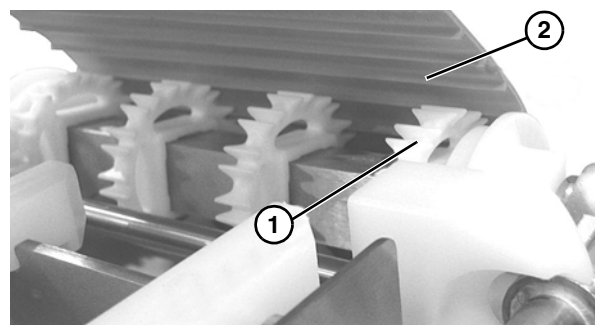
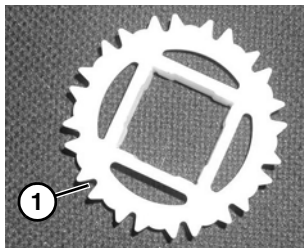

Figure 10
Figure 11
6. Align the sprockets (**Figure 10, item 1**) with the cogged drive teeth (**Figure 10, item 2**) on the inside of the belt.
NOTE: The cogged drive teeth on the belt (**Figure 10, item 2**) should engage the deep grooves of the sprocket (**Figure 11, item 1**).